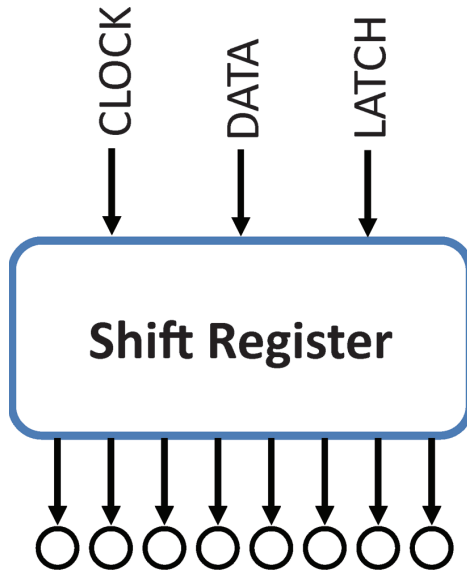

Figure 7-1: Shift register input/output diagram
in seven-segment displays or LED matrices. Before you dive into using a shift register with your Arduino, consider the diagram in Figure 7-1, which shows the inputs and outputs to a serial-to-parallel shift register. Variations to this diagram throughout the chapter illustrate how various inputs affect the outputs.
- Pins Q_A through Q_H represent the eight parallel outputs from the shift register (connected to the circles shown in Figure 7-1).
- The SER pin is represented by the DATA input in Figure 7-1. This is the pin where you will feed in 8 sequential bit values to set the values of the parallel outputs.
- The SRCLK pin is represented by the CLOCK pin in Figure 7-1. Every time this pin goes high, the values in the shift register shift by 1 bit. It will be pulsed eight times to pull in all the data that you are sending on the data pin.
- The RCLK pin is represented by the LATCH pin in Figure 7-1. Also known as the *register clock pin*, the latch pin is used to “commit” your recently shifted serial values to the parallel outputs all at once. This pin allows you to sequentially shift data into the chip and have all the values show up on the parallel outputs at the same time.